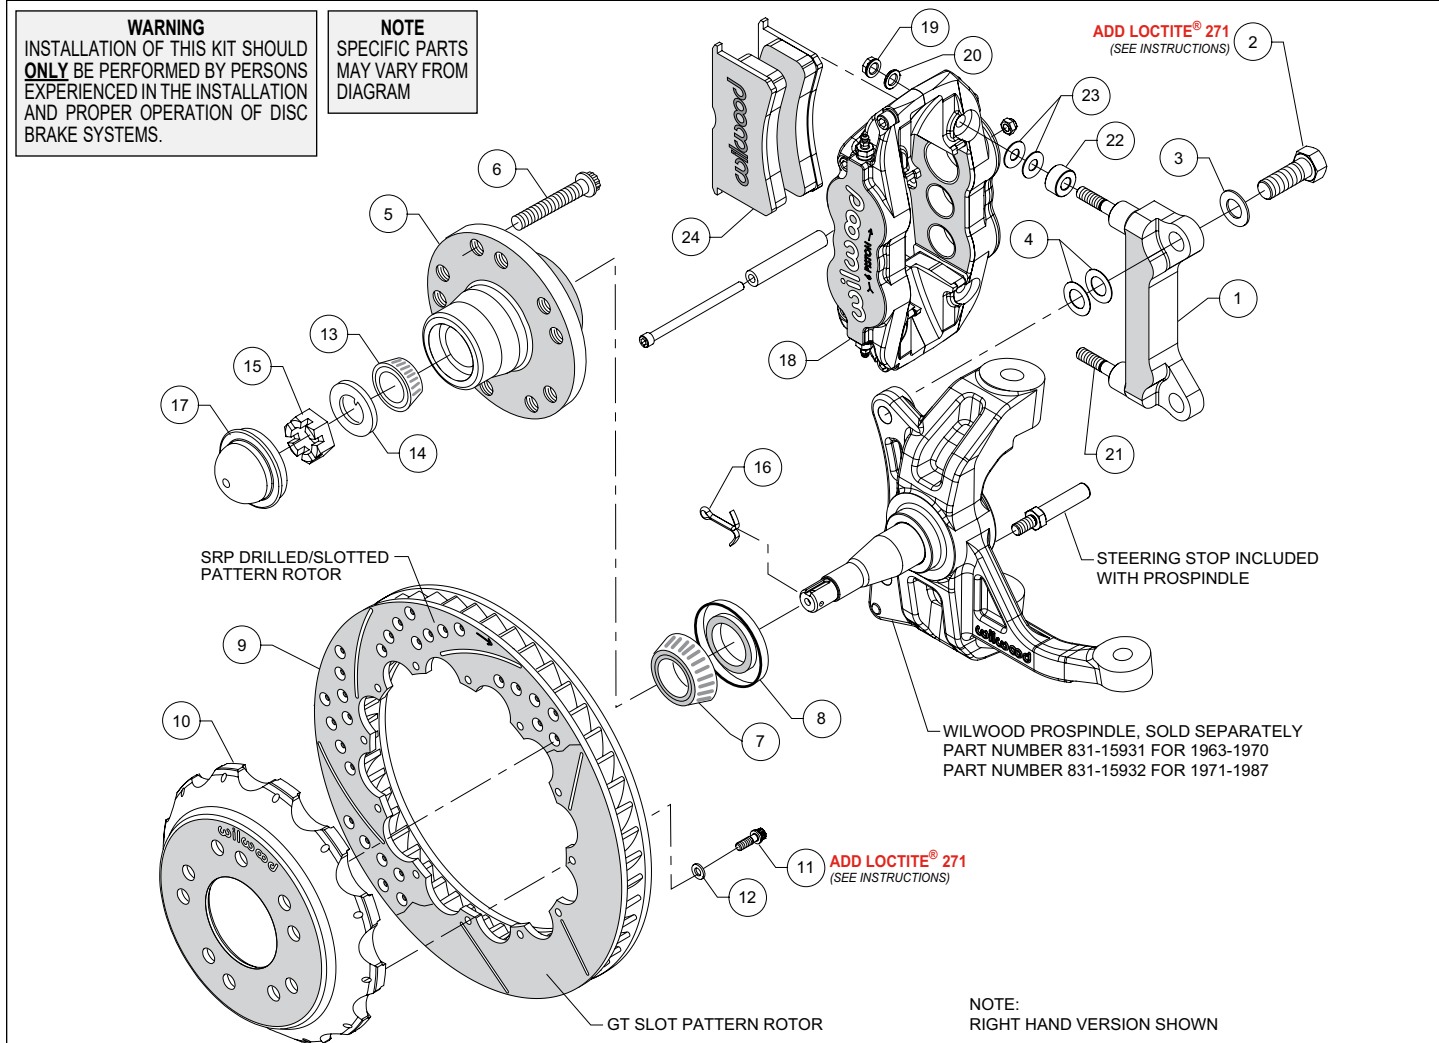
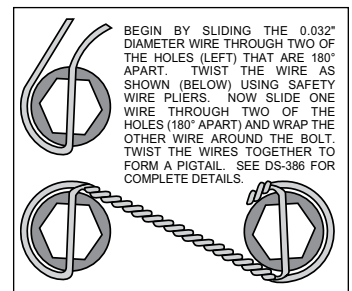

Figure 1. Typical Installation Configuration
Figure 3. Safety Wire Diagram
**NOTE:** Numbers in parenthesis refer to the parts list and Figure 1 on the preceding pages.
- Install the steering stop bolt (included with the ProSpindle) into the spindle as shown in Figure 1 and Photo 1. Torque to 25 ft-lbs.
- The caliper mount bracket (1) should initially be installed with clean, dry threads on the mounting bolts. Orient the bracket, as shown in Figure 1 and Photo 2, and install using bolts (2) and washers (3). Initially place two .024" thick shim (4) on each bolt between the bracket and spindle, Figure 1. Temporarily tighten the mounting bolts. **NOTE:** The bracket must fit squarely against the mount bosses on the spindle. Inspect for interference from casting irregularities, machining ridges, burrs, etc. Later, after the caliper alignment has been checked, the mount bolts will be secured using red *Loctite*® 271.
- Pack the small outer bearing cone (13) with high temperature disc brake bearing grease and install into hub (5). Slide the hub assembly onto the spindle. Secure using spindle washer (14) and spindle nut (15), Photo 6. Adjust bearings per OEM specifications. Install a new cotter pin (16).
- Press the dust cap (17) into the hub (5). **NOTE:** Do not hammer center of cap. Install using outer flange only.
- Orient the rotor (9) and the hat (10) as shown in Figure 1 and Photo 7. Attach rotor to hat using bolts (11) and washers (12). Apply red *Loctite*® 271 to the bolt threads and torque to 155 in-lb using a criss-cross pattern. For an added measure of security, the bolts may be safety wired using standard 0.032 inch diameter stainless steel safety wire as shown in Figure 3. Refer to Wilwood's data sheet DS-386 (available at [www.wilwood.com/Pdf/DataSheets/ds386.pdf](http://www.wilwood.com/Pdf/DataSheets/ds386.pdf)) for complete safety wire installation instructions.
in Figure 1 and Photo 9. Mount the caliper (18) onto the bracket (1) using lock nuts (19) and washers (20), Figure 1. Temporarily tighten the lock nuts. Ensure that the caliper is mounted so that the largest pistons are at the rotor exit end of the caliper, in relation to the direction of rotor rotation. View the rotor through the top opening of the caliper. The rotor should be centered in the caliper, Photo 10. If not, adjust by adding or subtracting shims (4) between the bracket and the spindle. Always use the same amount of shims on each of the two mounting bolts. Once the caliper alignment is correct, remove the bracket mounting bolts one at a time, apply red *Loctite*® 271 to the threads, and torque to 140 ft-lb.